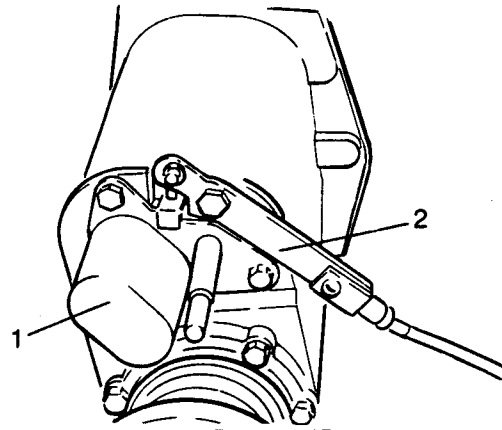

Fig H1.115
- (8) Refer to Fig H1.115. Fit the dust cover (1) for the selector shafts, applying a film of sealing compound on the joint washer.
- (9) Fit the four wheel drive lever (2) together with the locking pin.